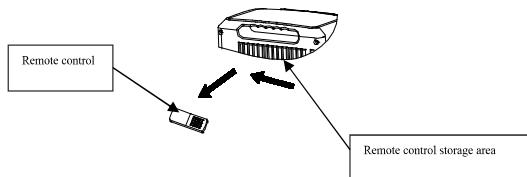

Figure 18
(1). Take the remote control out of the remote control storage area in the direction shown by the arrow; (as shown in Figure 18)